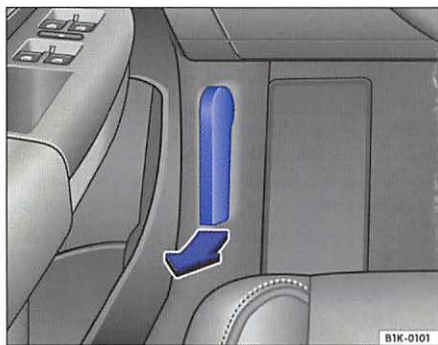

Fig. 3 Detail of the footwell: the release lever for the engine hood is located in the footwell on the driver side
- Pull the release lever underneath the instrument panel in the direction of the arrow ⇒fig. 3. The engine hood is released from its latch by a spring mechanism ⇒.